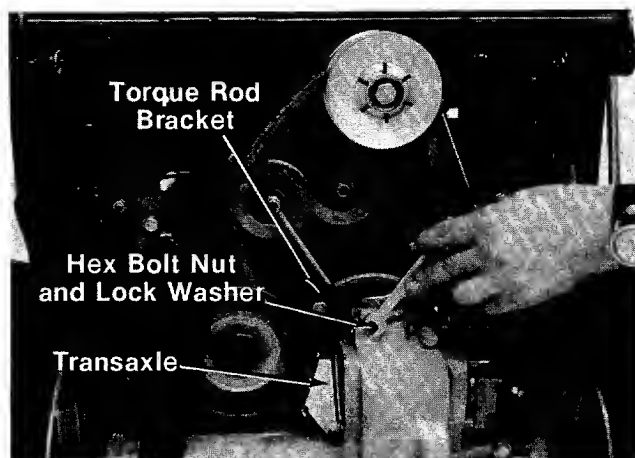

FIGURE 36.
3. Remove the hex bolt, nut and lock washer at the torque rod bracket and transaxle. See figure 36.